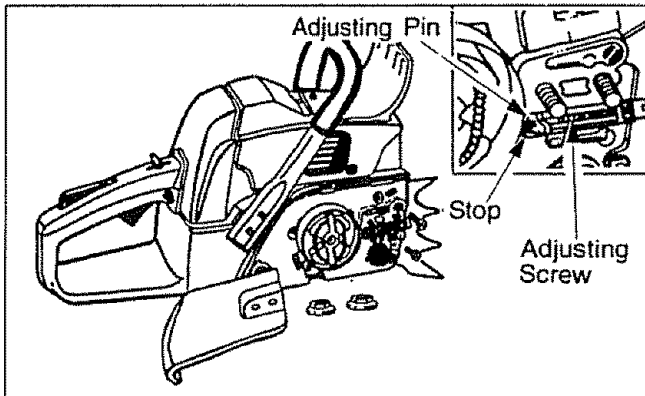

Figure 7
- Turn adjusting screw *by hand* counterclockwise until adjusting pin just touches the stop (see Fig. 7).